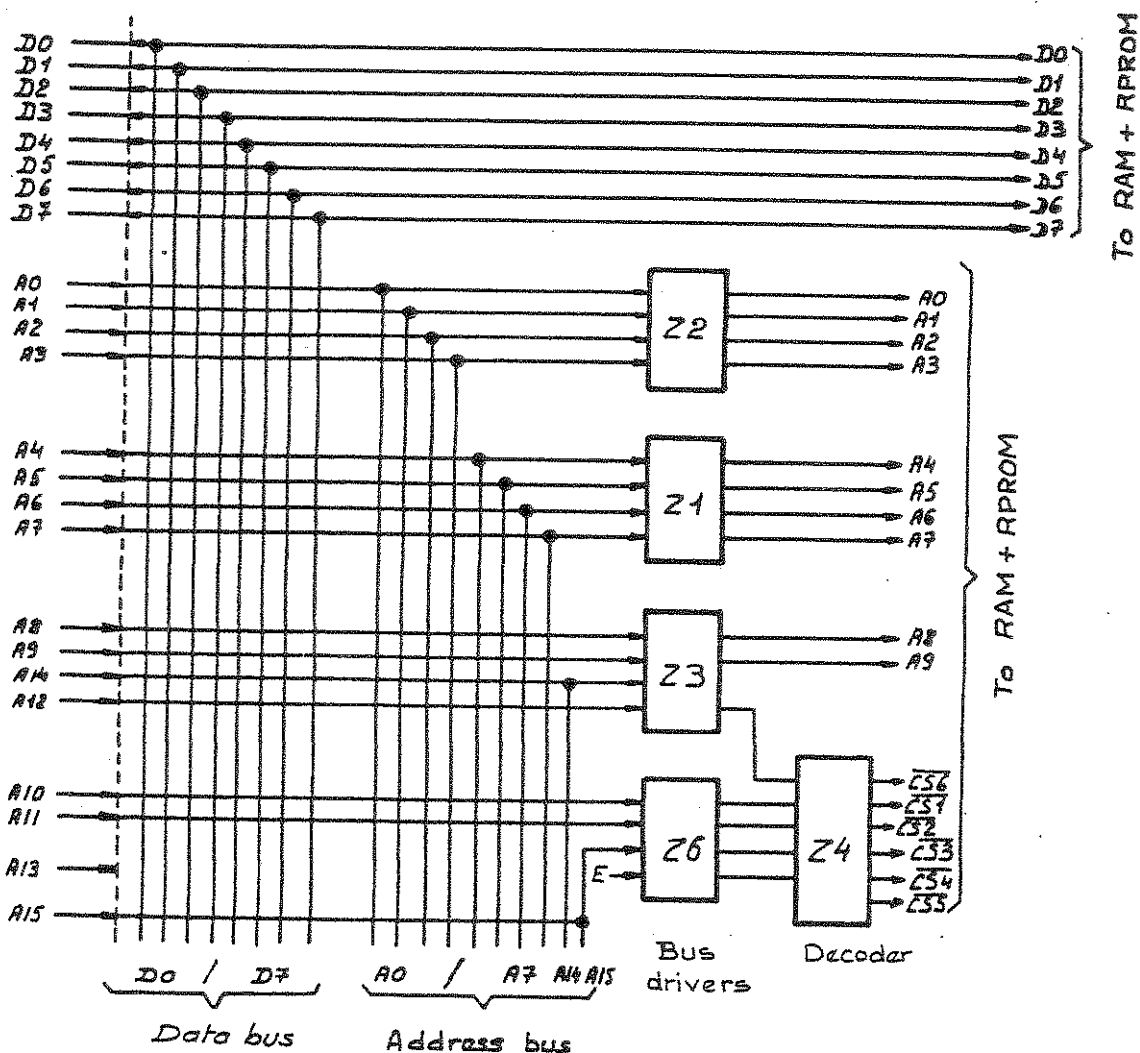

figure 1 Program memory
1.8.2 Program-memory (figures 1 and 2)
1.8.3 Working memory (figures 1 and 3)
Program memory (Figure 1)